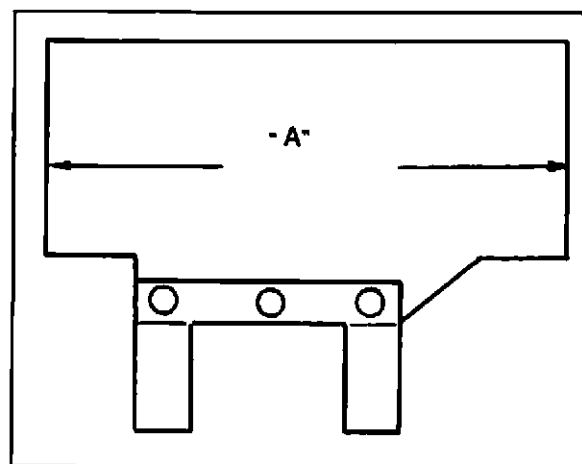

Fig. 6-11 Vane Inspection
6. Inspect the vane for deformation, wear and damage. The dimension "A" shown in Fig.6-11 should be more than 2,35". If defective, replace it.